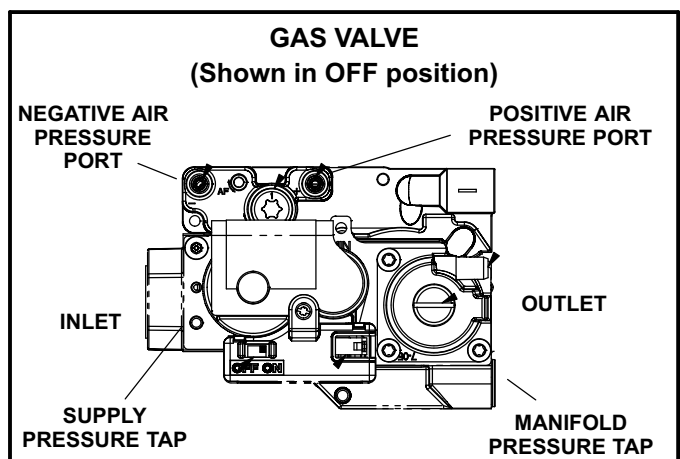

FIGURE 48
#### Gas Valve Operation (Figure 48)
- 6 - Move the gas valve switch to the **OFF** position. See figure 48.
- 8 - Move gas valve switch to the **ON** position. See figure 48. Do not force.